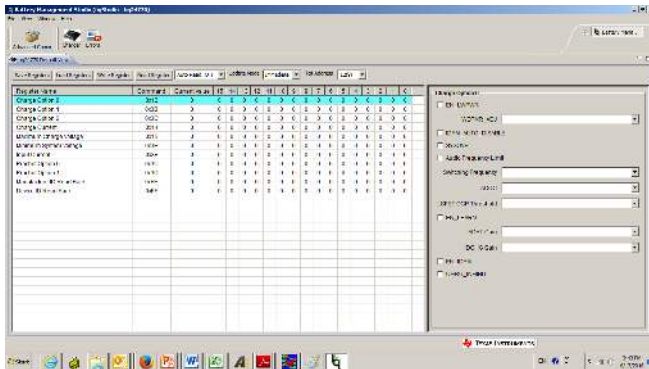
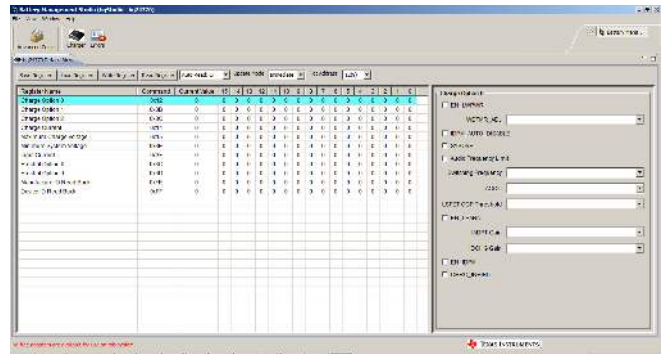
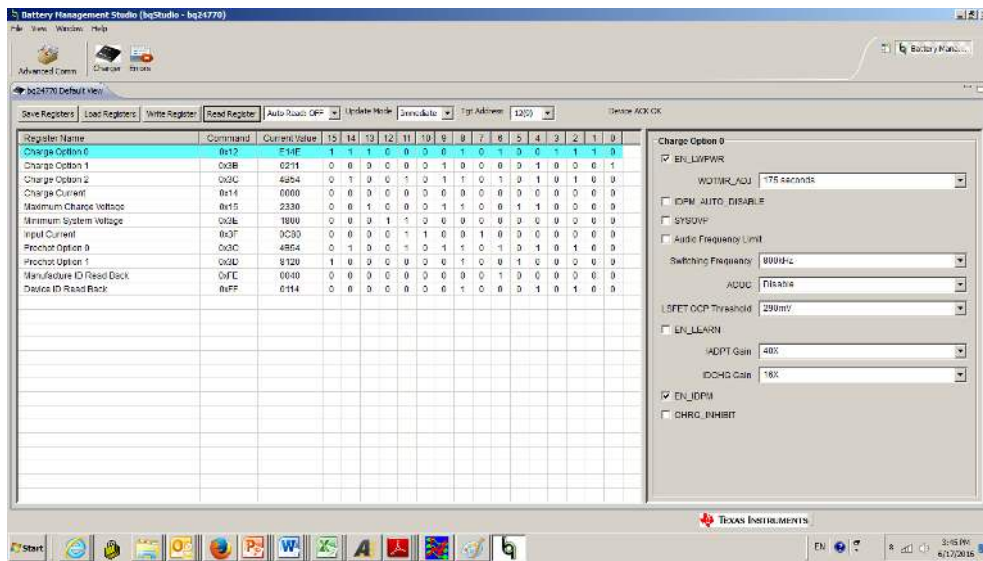
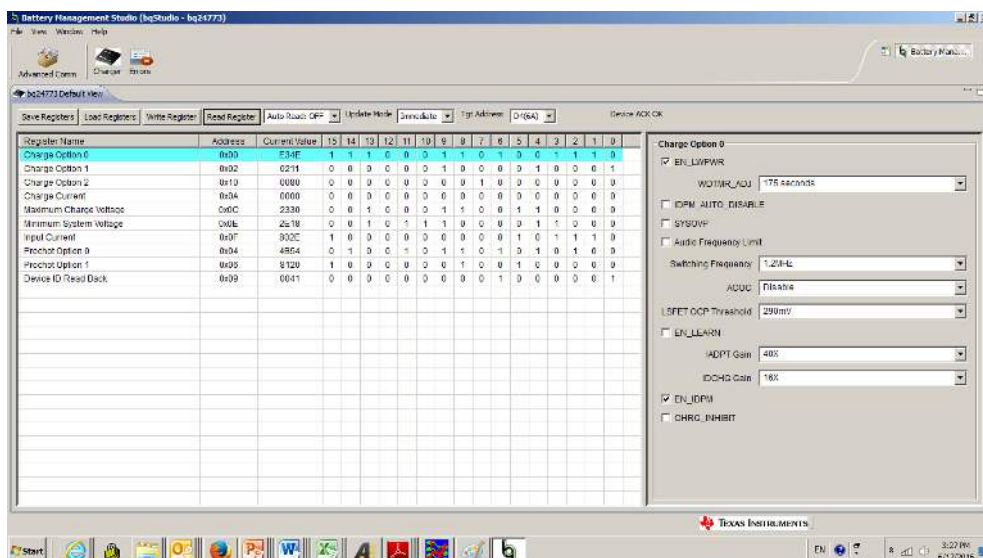

Figure 4. bq2477x GUI "SMB" Software Window Prior to Reading Registers
Figure 5. bq2477x GUI "I2C" Software Window Prior to Reading Registers
Figure 6. bq2477x GUI "SMB" Software Window (Three Cells Reading) After Reading Registers
Figure 7. bq2477x GUI "I2C" (Two Cells Reading) Software After Reading Registers
- Turn on the computer. Launch the bqstudio evaluation software and select charger and 00-bq24770.bqz or 00-bq24773.bqz file. Examples of the GUI "SMB" software window prior to reading the registers and after reading the registers are shown in Figure 4 and Figure 6, respectively. Examples of the GUI "I2C" software window prior to reading the registers and after reading the registers are shown in Figure 5 and Figure 7, respectively. Make sure the address is 0x12 (for SMB mode) and 0xD4 (for I2C Mode) by clicking on Settings → SMB address. Change if necessary and click OK. The values will be read later in the procedure, after PS#2 is powered.
Click on Actions and Read all Registers in the GUI software. Make sure there is no error information generated. Verify reading for Figure 6 settings. Skip Section 3.2 if no errors exist. If there is error information window pop up: “USB Error. Insure USB cable is connected and Driver is working”. Please do the following step:
(a) Click OK and then close the main window that shows as Figure 6 and disconnect USB cable.
- (d) Open the bq2477x_GUI evaluation software. The main window of the software is shown in Figure 6.